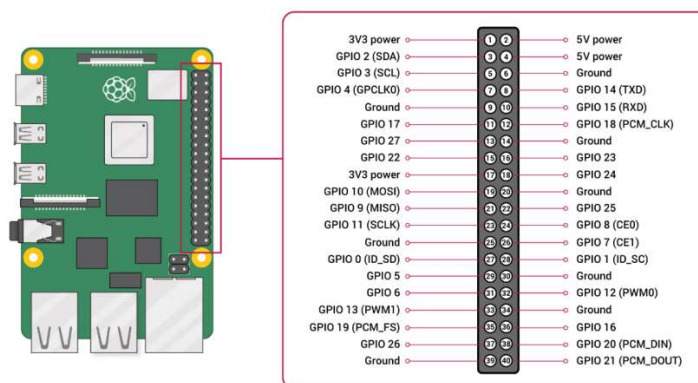

Figura 55: Pinos GPIO
6.4.1 Raspberry Pi3 B+, Figura 55